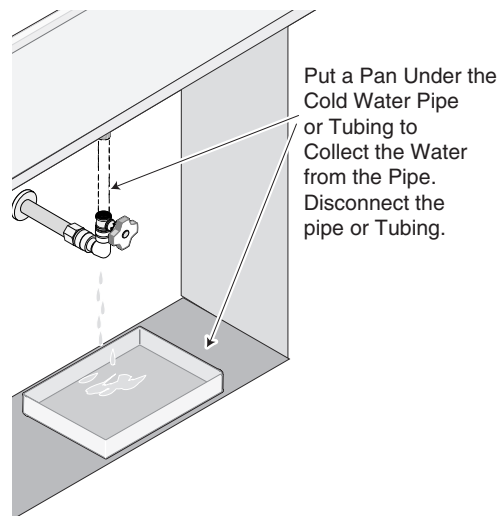

Figure 2
4. Put a pan under the cold water valve and disconnect the cold water pipe or tubing from the inlet valve. See Figure 2.